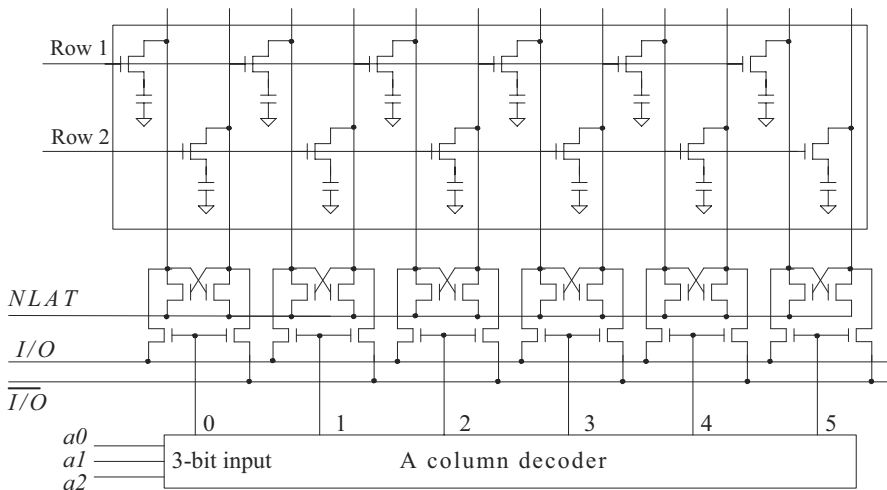

Figure 16.73 Design of a column decoder for problem 16.8.
- 16.8** Figure 16.73 shows the addition of I/O (input/output) transistors to the memory array and NSA seen in Fig. 16.17. Sketch a column decoder design using static logic. Show how the 3-bit input address is connected to each stage.